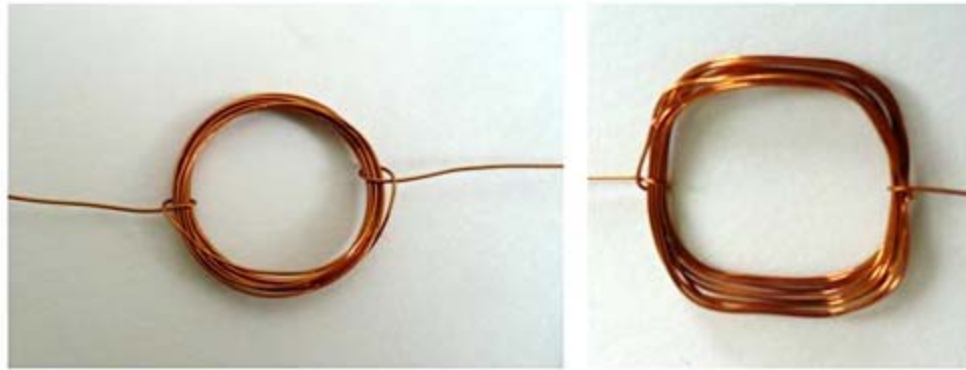

Figure 8. Two examples of neatly coiled wire, each creating an electromagnet.
3. Carefully slide the loops of magnet wire off the pencils or cylinder. Your coil might look circular or square, as shown in Figure 8, below. How to hold the loops together is explained in step 4.